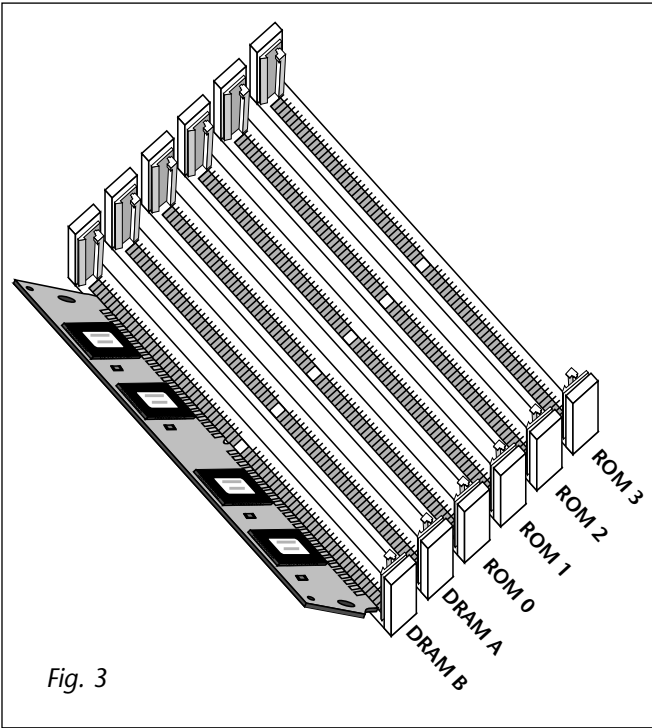

Fig. 3
6. Gently set the SIMM deep into the SIMM socket at a 45° angle with the notch toward the back of the unit as shown in figure 3. Without forcing the insertion, let the board rest in the socket as deep as it will go. The chips mounted on the board should face the rear of the unit. See the following diagrams.